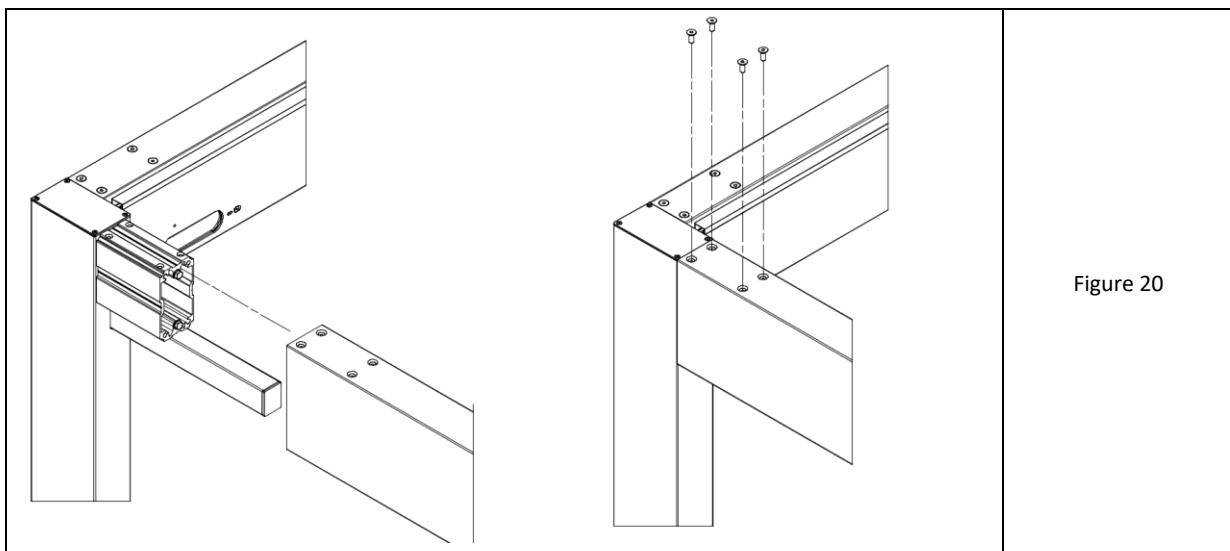

Figure 20
8. Slide the lengthwise beam on the bones of the cross frame posts from the side of the angular overflow (fig. 20-left).
10. When inserting the profile avoid abrasion of the sealing layer and apply EPDM to the beam wall only after aligning the contours of the holes. Tighten the overflow with 2 countersunk screws M5x8 (in external oval holes with deepening) (fig. 20-right).
11. Fasten the lengthwise beam to the post's bone from the side of the upper chamber using four countersunk screws M8 x 20 with Allen sockets (fig. 20-right).